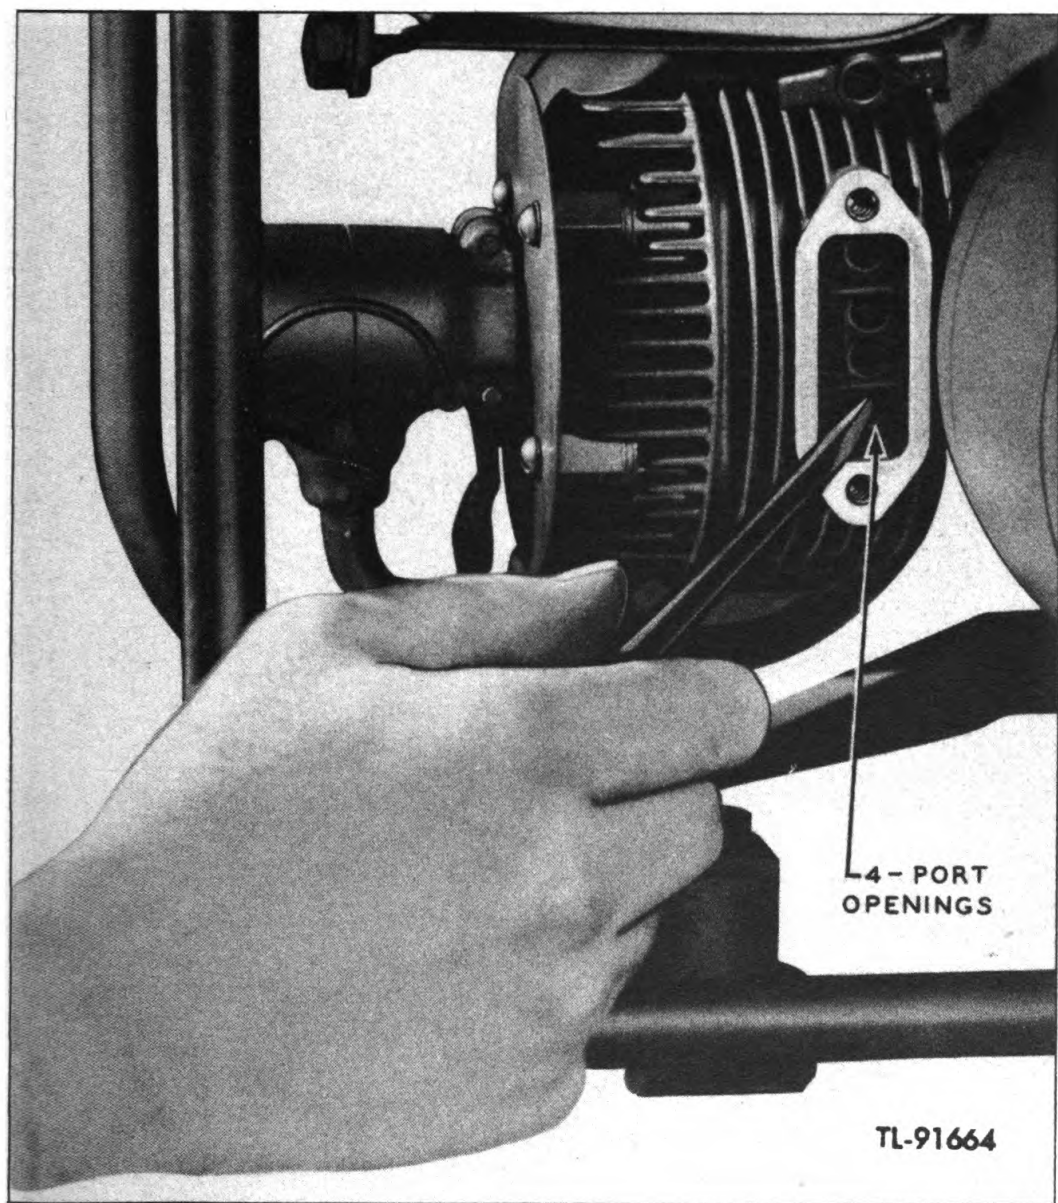

Figure 16. Carbon removal, exhaust ports
(1) Exhaust ports. To clean out the exhaust port holes (fig. 16), remove the muffler. Turn the engine over by hand until the piston reaches bottom dead center. Clean out the port openings, using the combination screwdriver and socket wrench furnished with the equipment or a small screwdriver ground down to fit. Turn the engine over several times to permit carbon chips an opportunity to pass out of the engine before reinstalling the muffler.